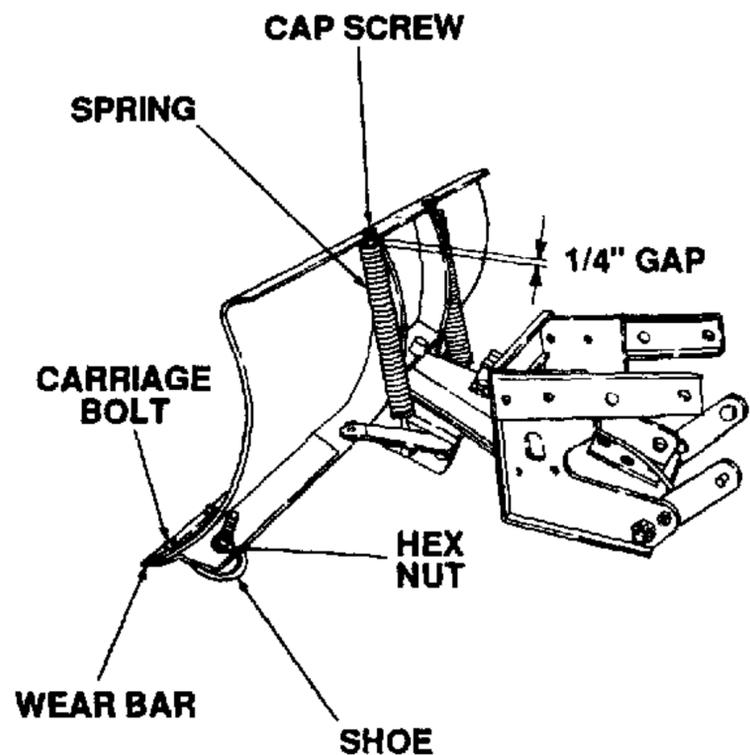

Figure 7-23. Adjusting the Blade.
1. Adjust the skid shoes (refer to Fig. 7-23) to the appropriate position for the job being performed as follows:
2. If the wear bar (see Fig. 7-23) becomes worn, reverse or replace the bar as follows:
3. Maintain the proper trip spring tension (see Fig. 7-23) as follows: